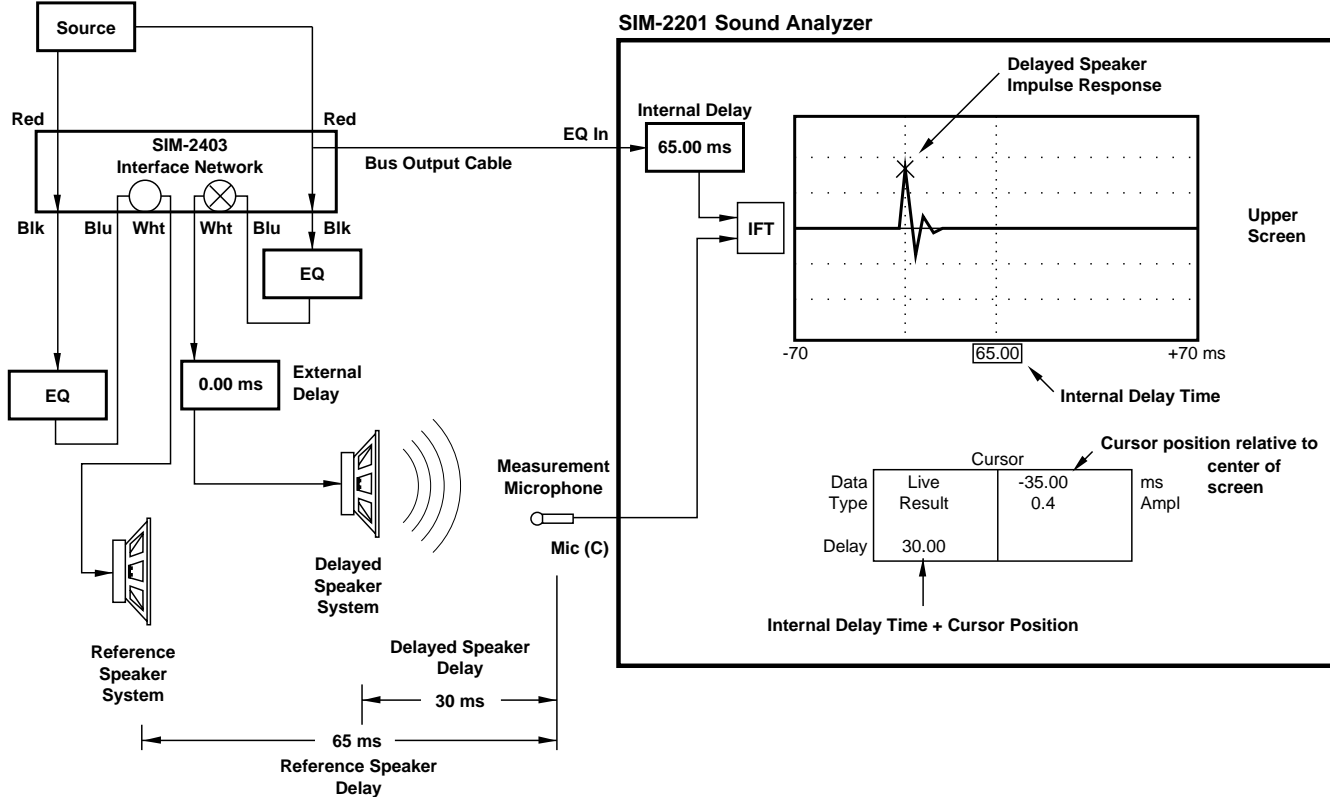

Figure 46b — Before Setting the External Delay. F3 has been Pressed. The Delay Speaker is Selected.
- 4) Press **F3**. The Internal Delay Time will be set to compensate for the Reference speaker propagation delay, then the SIM-2201 will select the Delayed speaker and restart the Delay finder. The Delay finder display should appear as shown in Figure 46b.